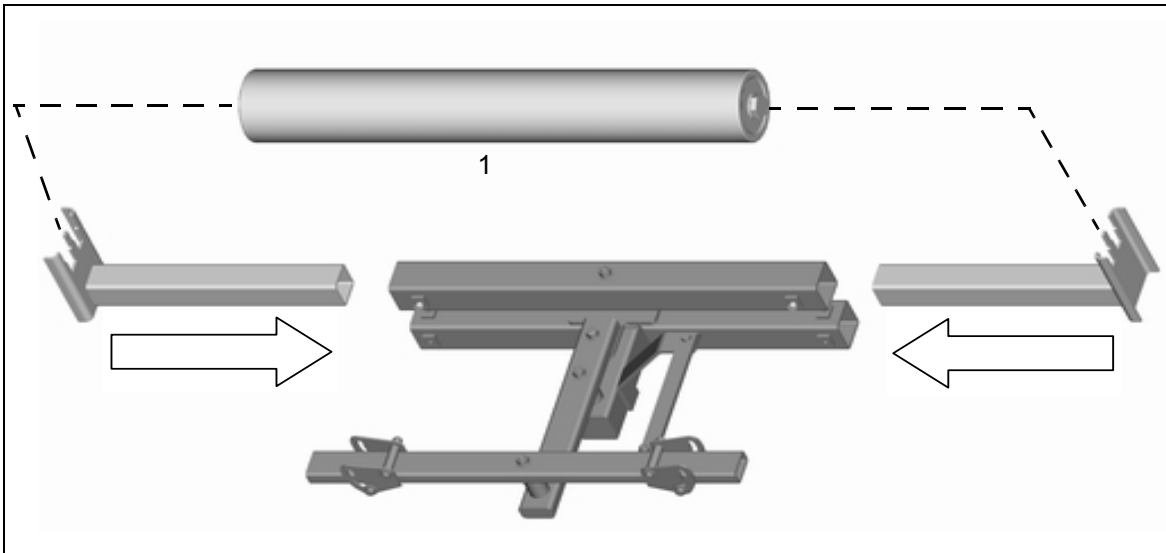

Fig. 1: Installing the return roller
1. Remove the existing return roller (1, Fig. 1) and keep them aside. The roller is required for further installation.
2. Install the return roller that has been removed in the supporting construction of the lower tracker unit (Fig. 1).